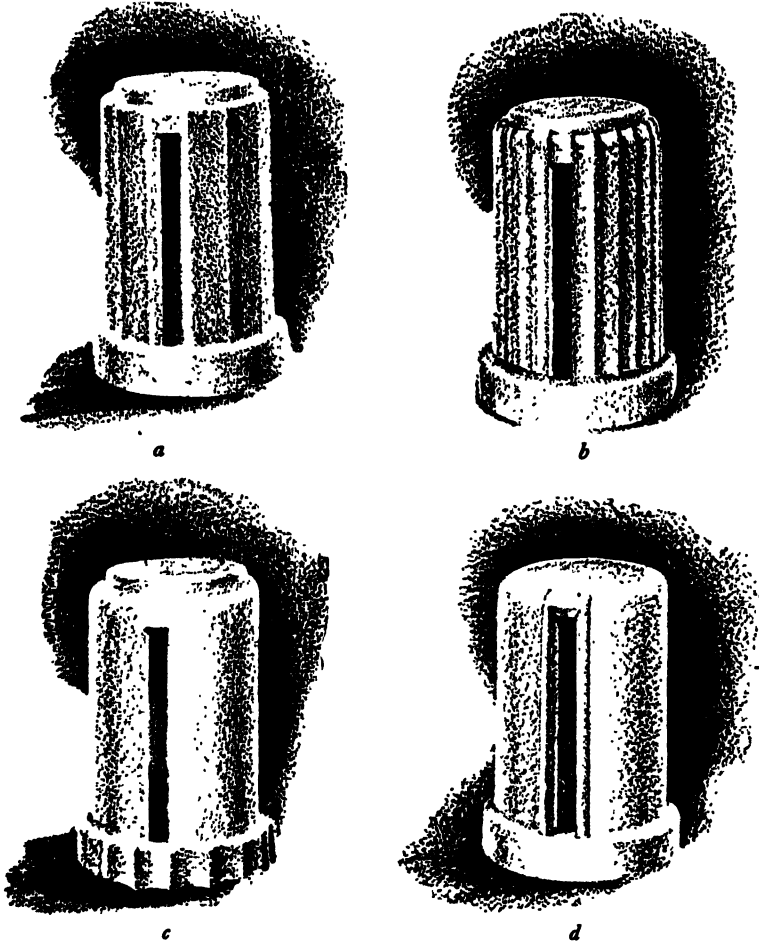

FIG. 186.
Decorative treatment alone remains (Fig. 186). We try facets (*a*), flutes (*b*), a fluted base (*c*), and finally keep the surfaces perfectly plain (*d*). (When in doubt, leave it out!) Plastics need very little decoration to make them telling, because color and surface luster do your designing for you. In sketch *d* we have put a border around the slot. This was done for two good reasons: (1) because it accents the opening and (2) because it helps to disguise the slight roughness resulting from breaking away the fin.